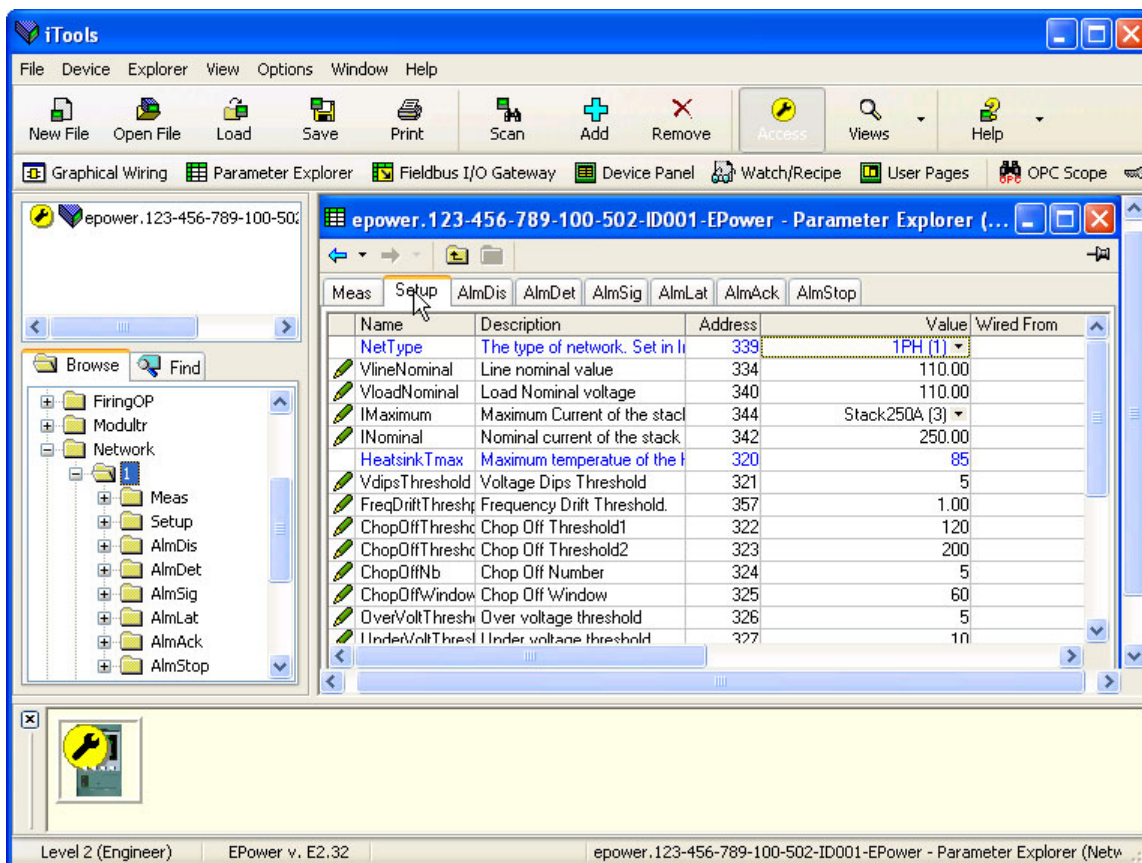
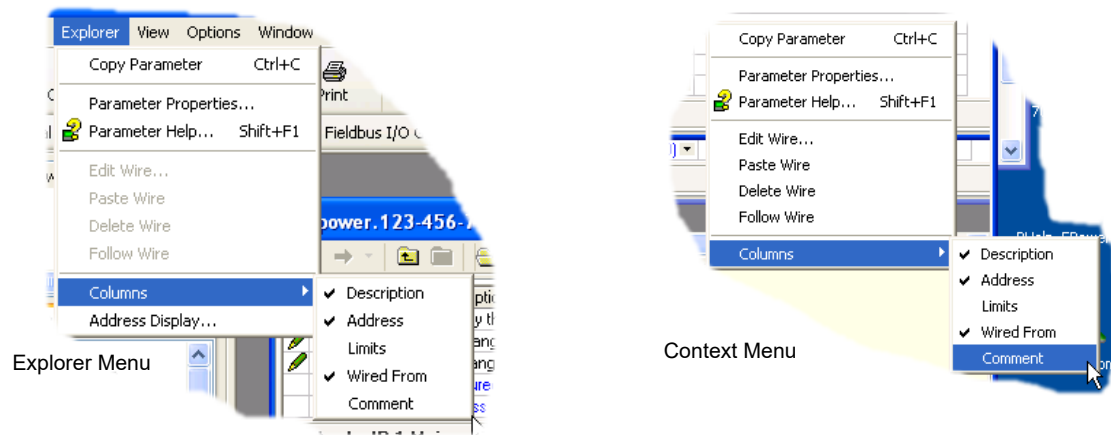

Figure 122 Parameter Table Example
Figure 123 Column Enable/disable
In each case the function block parameters appear in the iTools window in tabular form, such as the example in Figure 122, below.
The figure above shows the default table layout. Columns can be added/deleted from the view using the 'Columns' item of the Explorer or context menus (Figure 123).
- Parameters in blue are non-editable (Read only). In the example above all the parameters are read only. Read/write parameters are in black and have a 'pencil' symbol in the 'read/Write access column' at the left edge of the table. A number of such items are shown in Figure 122, above.
- Columns. The default explorer window (Figure 122) contains the columns 'Name', 'Description', 'Address', 'Value', and 'Wired From'. As can be seen from Figure 123, the columns to be displayed can be selected, to a certain extent, using either the 'Explorer' menu or the context menu. 'Limits' have been enabled for the example above.
Columns	Allows the user to enable/disable a number of parameter table columns (Figure 123).